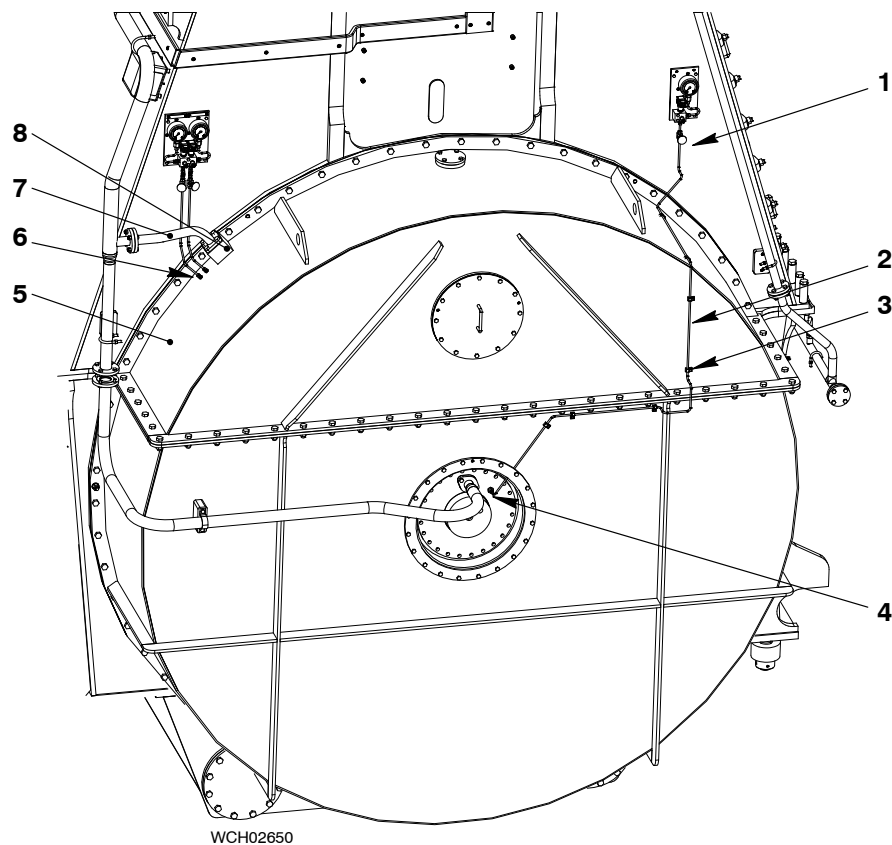

Fig. 6
- 1) Attach the top housing (5, Fig. 6).
- 2) Connect the two pipes to the screw-in unions (6).
- 3) Attach the oil inlet pipe (7) to the flange (8).
- 4) Attach the copper pipe (2) to the needle valve (1), hose clips (3) and damper housing (4).